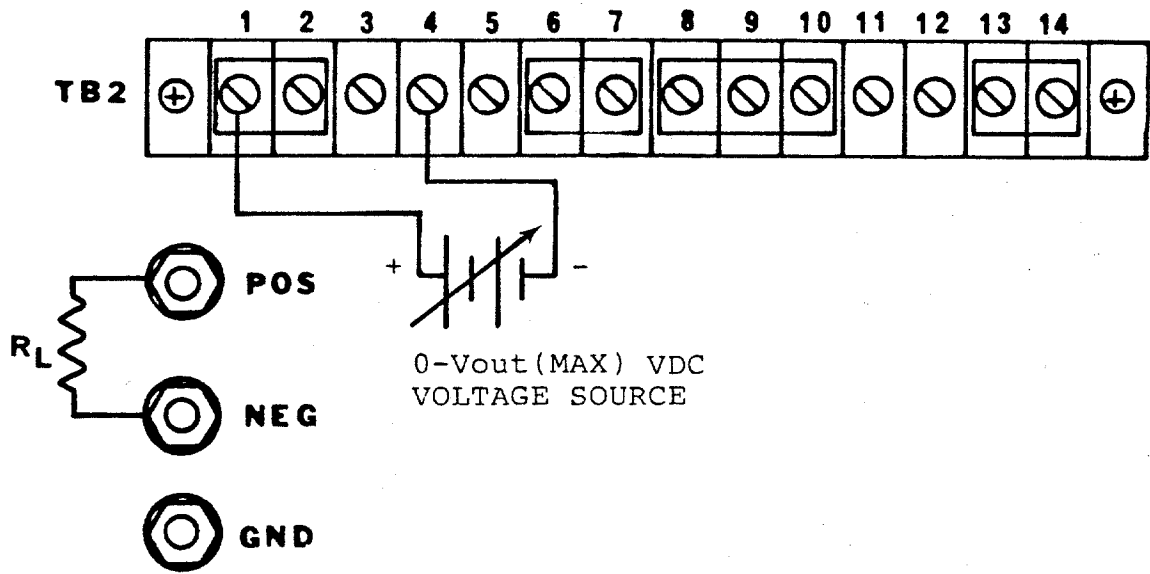

Figure 3-5. Remote Voltage Programming of Output Voltage
(2) External Voltage Programming. The voltage coefficient for external voltage programming is $V_{\text{out}}(\text{max})\ \text{volts} = 100\%$ of rated output voltage. To program voltage slightly above the rated output will not damage the unit, but degraded performance may result. See figure 3-5 for strapping requirements.